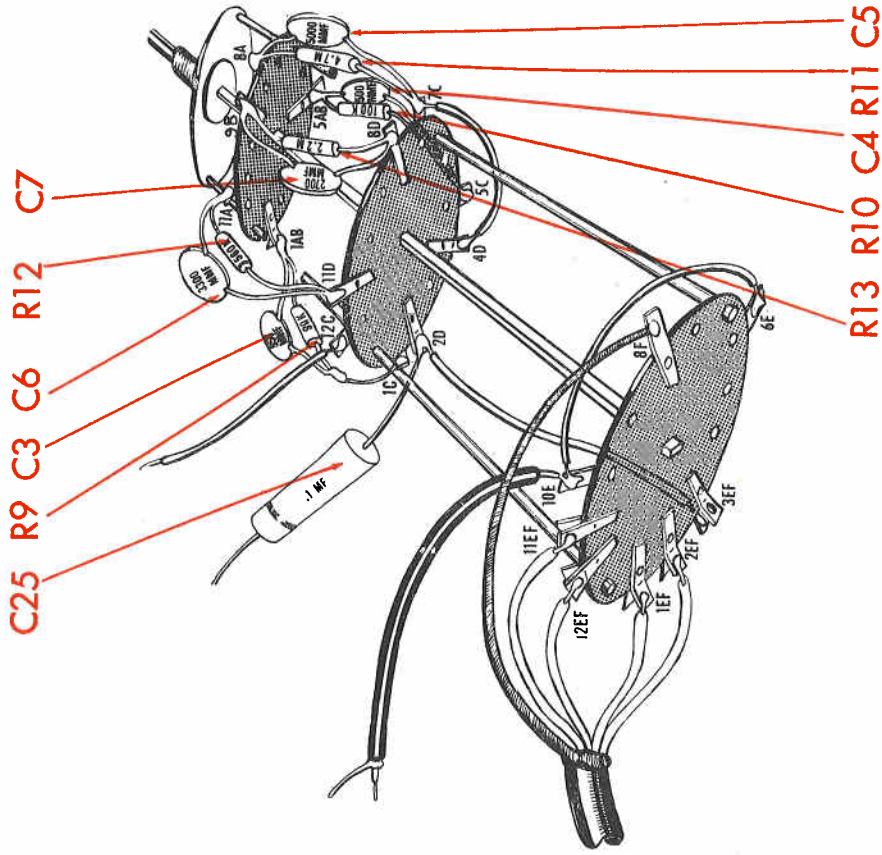

Fig. 2
1. (✓) Fig. 2. Connect an 850 mmf capacitor, C3, and a 90KΩ (white, black, orange, gold) 5% resistor, R9, from 1B (S) to 1C (S).
2. (✓) Fig. 2. Connect a 500 mmf capacitor, C4, and a 100KΩ (brown, black, yellow, gold) 5% resistor, R10, from 5C (S) to 5B (S).
3. (✓) Fig. 2. Connect a 5000 mmf 10% capacitor, C5, and a 4.7 meg (yellow, violet, green, gold) 5% resistor, R11, from 7C (C) to 8A (S).
4. (✓) Fig. 2. Connect a 2700 mmf capacitor, C7, and a 2.2 meg (red, red, green, gold) 5% resistor, R13, from 8D (S) to 9B (S).
5. (✓) Fig. 2. Connect a 3300 mmf capacitor, C6, and a 560KΩ (green, blue, yellow, gold) 5% resistor, R12, from 11D (S) to 11A (S).
6. (✓) Fig. 2. Connect a grey lead from 4D (S) to 7C (S).
7. (✓) Fig. 2. Connect a 2" green lead to 12C (S). Leave the other end free.
8. (✓) Fig. 2. Connect one end of a .1 mfd (brown, black, yellow, black, yellow) 20% capacitor, C25, to 2D (C). This lead should be only 1" long. Cut the other end to 1 1/2" leaving it free.
9. (✓) Fig. 2. Connect a 1 1/4" bare lead from 2D (S) to 3E (S).
10. (✓) Fig. 2. Connect a 2" grey lead from 10E (C) to 6E (S).
11. (✓) Fig. 2. Cut a 5 1/2" length of the 4 conductor shielded cable. On both ends, the outer insulation is stripped back 1". The spiral shield is unwound and each lead insulation stripped back 3/8". Connect the inner leads on one end of the cable, so that one lead connects to each of the following four switch terminals:
- (✓) shield to 8F (S)
- (✓) orange to 1F (S)
- () yellow to 2F (S)
- (✓) brown to 11F (S)
- (✓) red to 12F (S)
12. (✓) Fig. 2. Cut a 6" length of shielded cable. On one end, strip back the outer insulation 3/4", unwrap and cut the spiral shield and strip back the inner insulation 3/8". (Call this end "A".) On the other end (end "B") the outer insulation is stripped back 3/4", the spiral shield is unwrapped and twisted and the inner insulation stripped back 3/8". Connect the inner lead of end "A" to 10E (S).
17. (✓) Fig. 2. Connect a 33KΩ (orange, orange, orange, silver) resistor, R19 from R18-3 (S) to ground lug "D" (S) on tube socket XV3. Cut both leads to 3/4". X